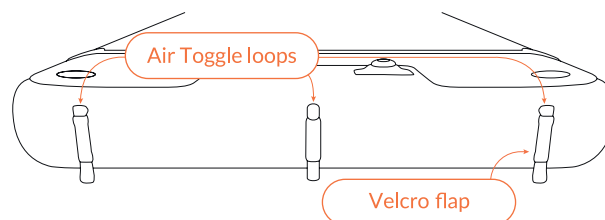

Fig 98 – Undo the Velcro flaps to release the Air Toggle loops
6. From a kneeling position ensure that the vertical Air Toggle loops are unfastened in the required locations on both Platforms by releasing the Velcro flaps (Fig 98).